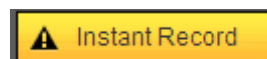

Figure 5-13
- Section 4: Instant record button. Click it, the button becomes yellow and system begins manual record. See Figure 5-13. Click it again, system restores previous record mode..